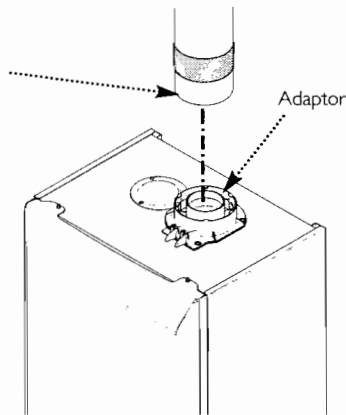

Fig. 25c
17. Engage the extension into the adaptor up to this position (Fig. 25c). Once the installation of the flue is complete and all support brackets are securely in place remove the tape.